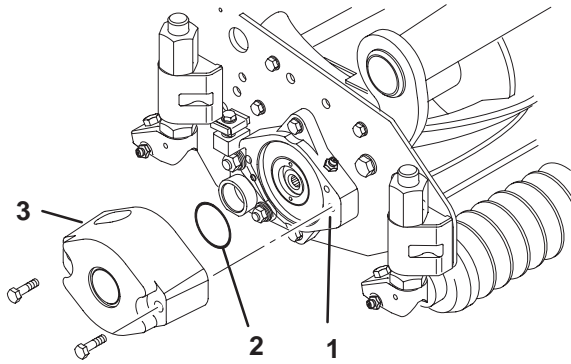

Figure 3
- Lubricate and install a large O-ring into bearing housing groove on each end of cutting unit (Fig. 3 & 6).
- Install a counter weight onto appropriate end of each cutting unit with capscrews provided (Fig. 3).